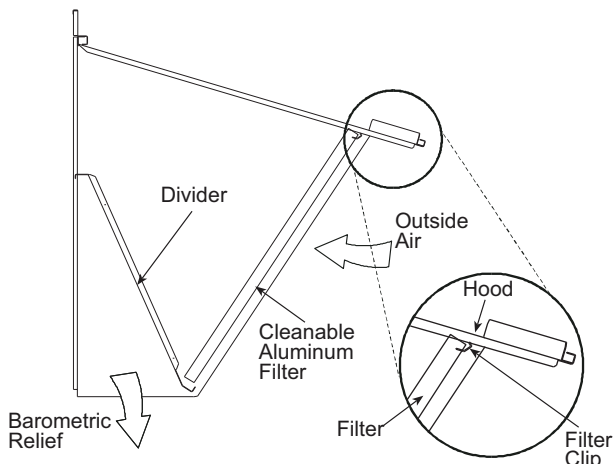

Fig. 18 — Economizer Filter Installation
6. Open the filter clips which are located underneath the hood top. Insert the aluminum filters into the bottom filter rack (hood divider). Push the filter into position past the open filter clips. Close the filter clips to lock the filters into place. See Fig. 18.